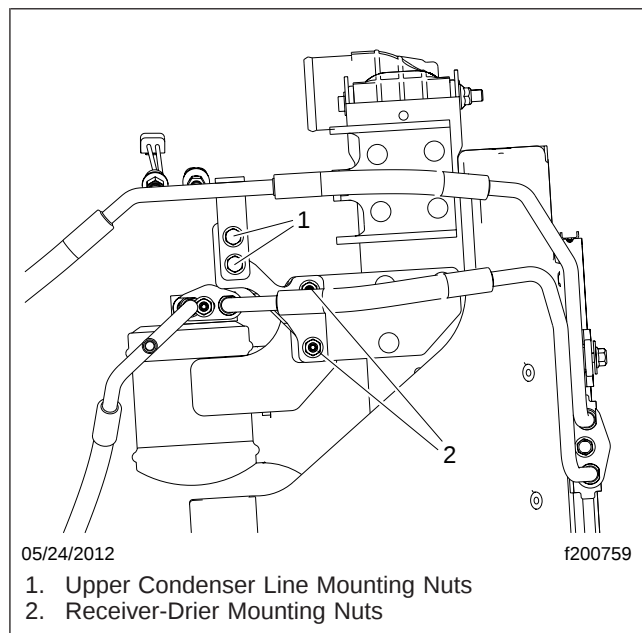

Fig. 2, Receiver-Drier Installation (typical)
- 13.1 Remove the receiver-drier and upper A/C hose mounting nuts, then free the receiver-drier. See Fig. 2.
- 37.2 Position the receiver-drier and upper A/C line on their respective brackets and install the mounting nuts. See Fig. 2. Tighten the nuts 14 to 16 lbf·ft (19 to 22 N·m).